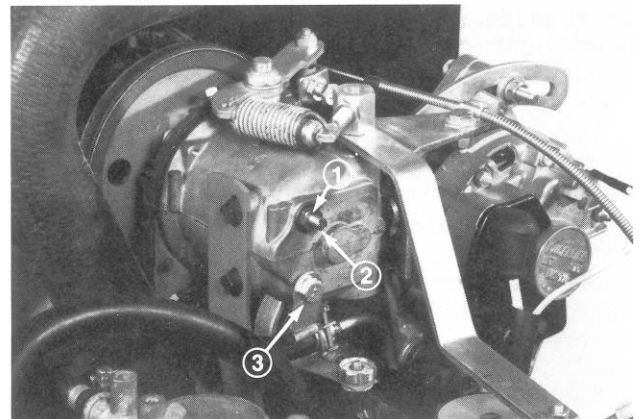

Figure 44
5. Check V-belts from engine to governor pulley and crank shaft to water pump and assure they are tight. If belts are loose, the engine will surge. If belts are tensioned properly, loosen jam nut that retains the anti-surge screw (Fig. 44). Rotate screw clockwise 1/8 turn at a time until surging stops. Should governor continue to surge, check the following:
2. Disengage hood latch and open the hood. Remove check plug (Fig. 44). Level of oil must be up to bottom of filler hole. If level of oil is low, add same oil — SAE 5W-30 or 10W-40 — that is being used in the engine crankcase. When oil is at point of overflowing out of check plug hole, install the check plug.